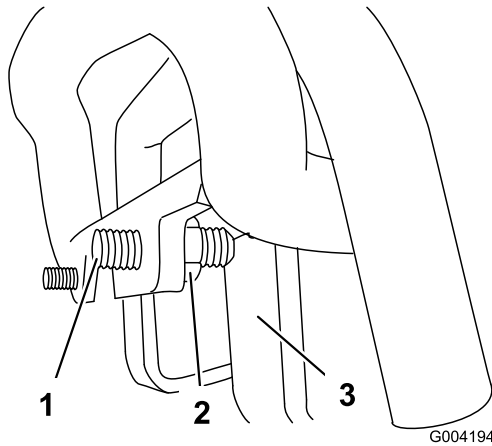

Figure 58
3. If the traction unit veers to the **left**, loosen the **right** jam nut and adjust the tracking set screw on the front of the traction control (Figure 58).
4. If the traction unit veers to the **right**, loosen the **left** jam nut and adjust the tracking set screw on the front of the traction control (Figure 58).